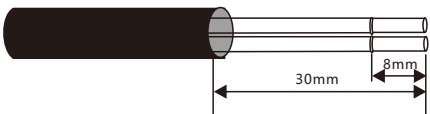

Figure 4.6
a. Strip the insulation and shield to a suitable length. Use diagram below as a guide. (see Figure 4.6).